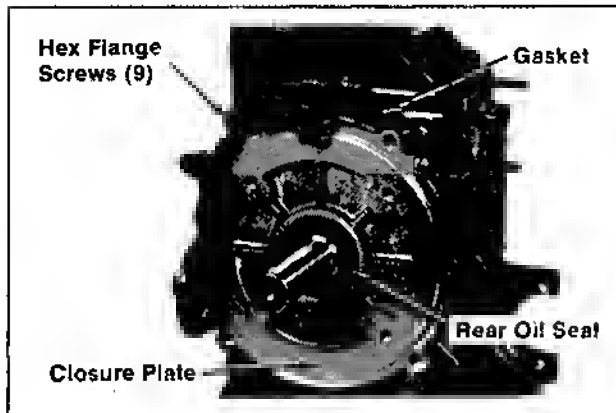

Figure 9-28. Removing Closure Plate.
1. Remove the hex. flange screws, closure plate, and gasket. Refer to Figure 9-28.